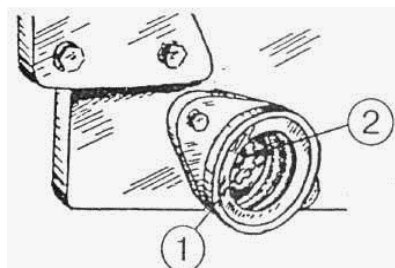

Figure 5.16
d) when mounting torsion (2) avoid damaging sealing rings (1) (figure 5.16). Lubricate working edges of sealing rings (1) with grease LITOL-24 or BECHEM LCP-GM;